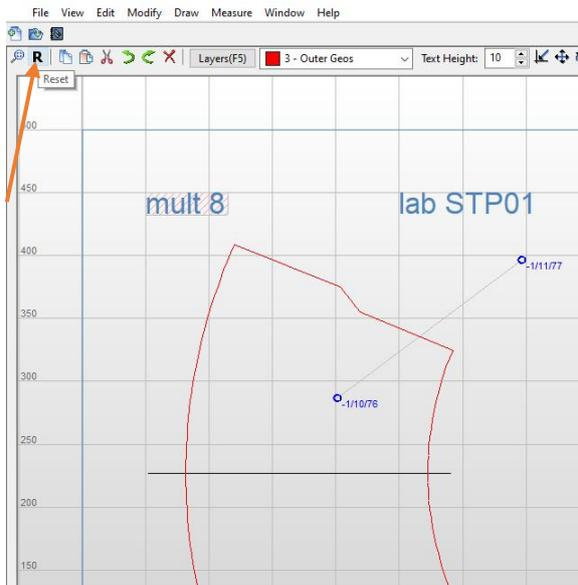

Figure 152
- Reset:** Now you may recognize that a grey line with two markings at its ends remains. They can be neither picked nor deleted. These NestKing indication objects can either be left or removed by clicking on the reset button **R** on the Main Toolbar (Figure 152).